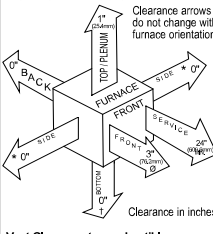

Fig. 2 – Clearances to Combustibles
11. See Fig. 2 for required clearances to combustible construction.
13. These furnaces SHALL NOT be installed directly on carpeting, tile, or any other combustible material other than wood flooring. In downflow installations, factory accessory floor base MUST be used when installed on combustible materials and wood flooring. Special base is not required when this furnace is installed on manufacturer’s cased evaporator coils or when manufacturer’s evaporator coil casing is used, See Fig. 2 for clearance to combustible construction information.